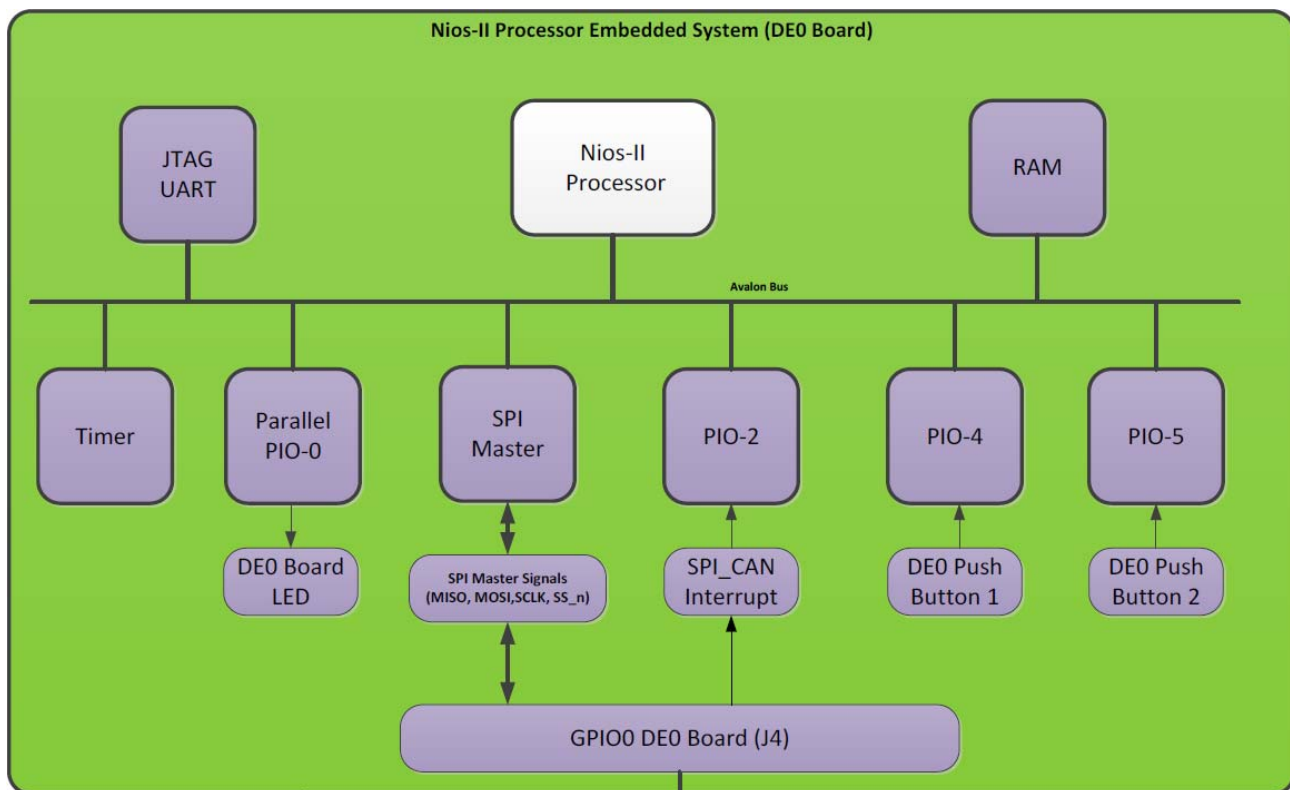

Figure 1
- The Nios II processor configuration on each board should be designed as illustrated in Fig. 1. Section “Creating your Qsys Design” below provides a step-by-step guide to the design process.